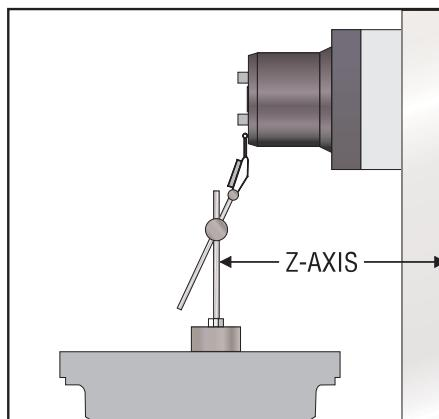

Figure 1.3-3. Dial indicator in position to check Z-axis.
1. Set up a dial indicator and base on the mill table as shown in Fig. 1.3-3.
An alternate method for checking backlash is to place the dial indicator as shown in Fig. 1.3-3 and manually push the Z-Axis forward and back while listening for a 'clunk'. The dial indicator should return to zero after releasing the axis.